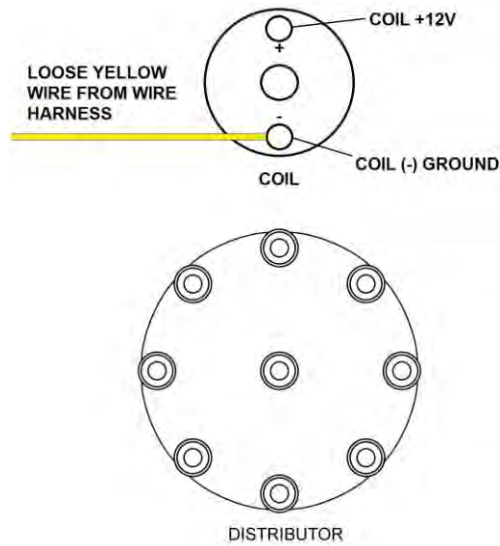

Figure 26
- 2) Any engine equipped with a factory mechanical advance distributor and separate canister style coil. This would include any points style distributor (Figure 26).
Figure 26 below shows how to connect to a factory style ignition with a canister style coil.